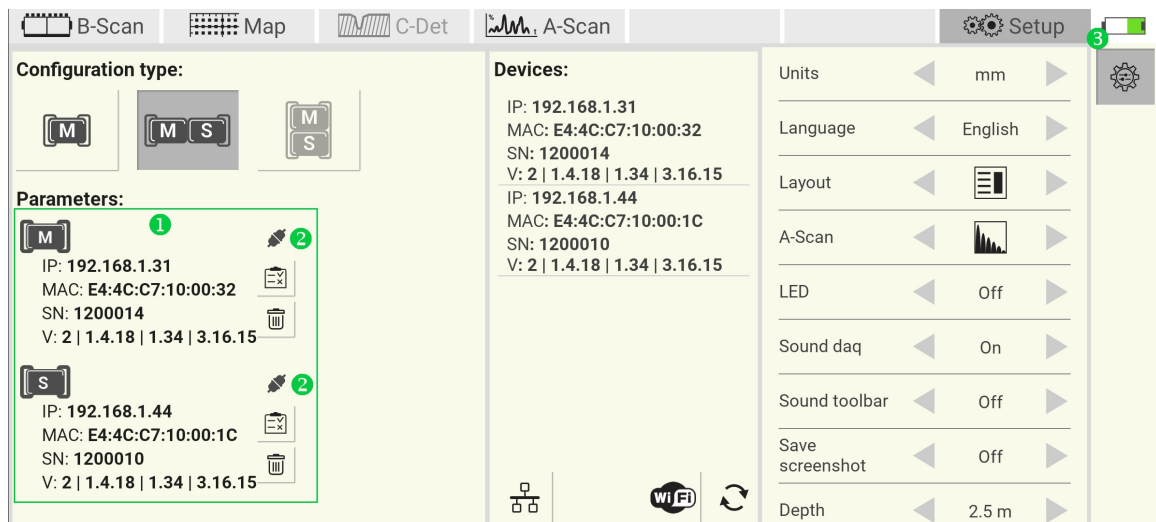

Figure 24: A1040 MIRA 3D PRO connection
After successful connection the panel ① shows parameters of the master and the slave devices. The indicators ② change from  to . The battery indicator ③ changes its status from disconnected  to power, Figure 24.